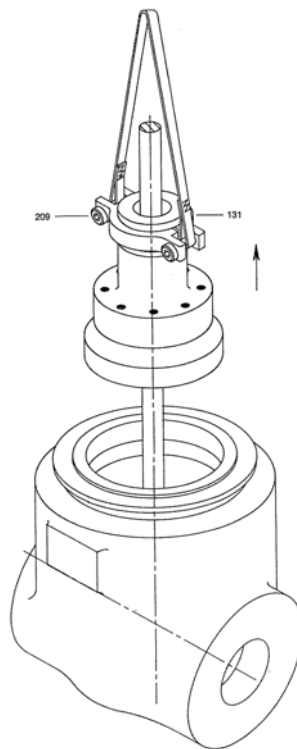

Figure 18
f. The preferred method of lifting the bonnet (See Fig. 18) is by using slings attached to the gland retainer (131). This means of lifting minimizes cocking. In order to attain the best attachment, the gland bolts (209) should be removed and the retaining rings' halves be reassembled on the bonnet. If desired, the sling can be looped through the retaining ring ears prior to assembly on the bonnet. Attempting to remove the bonnet by raising the stem, either with slings or the actuator, is not recommended. The load between the stem and the bonnet will be imparted to the backseat. Excessive force on the backseat sealing surface will cause it to deform or crack.